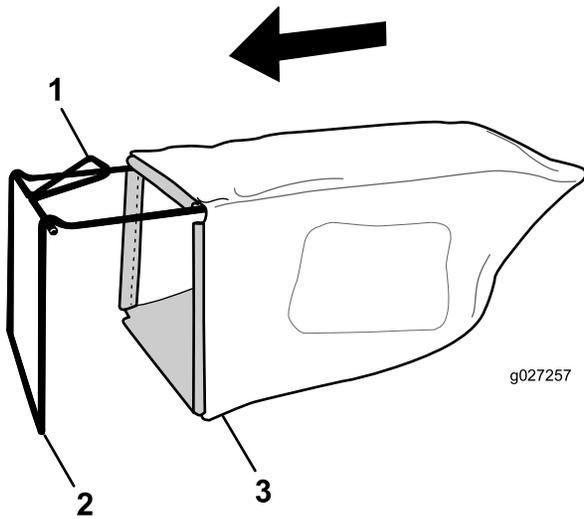

Figure 9
1. Slip the grass bag over the frame as shown in Figure 9.
**Note:** Do not slip the bag over the handle (Figure 9).